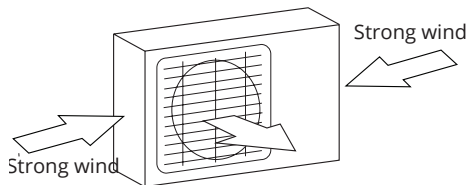

Fig. 9.1
- ❑ If the location is exposed to strong winds (for example: near a seaside), the unit must be placed against the wall to shelter it from the wind. If necessary, use an awning. (See Fig. 9.1 & 9.2)